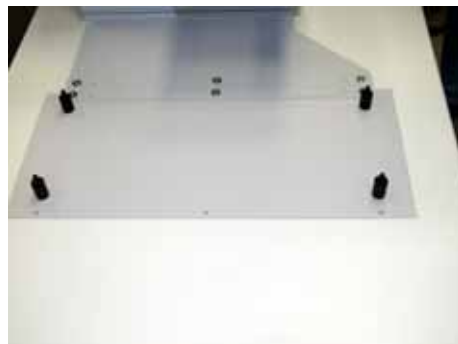

Figure 18 30 mm spacers (left) and mounted on the locating plate
- If you have two 140-mm-high modules below the sampler, you need to place four 30-mm spacers on the locating plate before placing the Well-plate Handler on the spacer pins (see Figure 18).